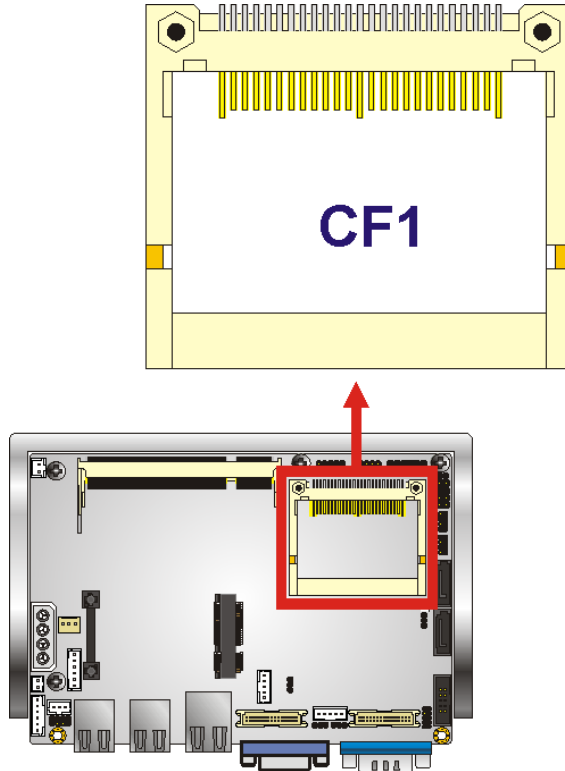

Figure 3-6: CF Card Slot Location
- CN Location:** See Figure 3-6